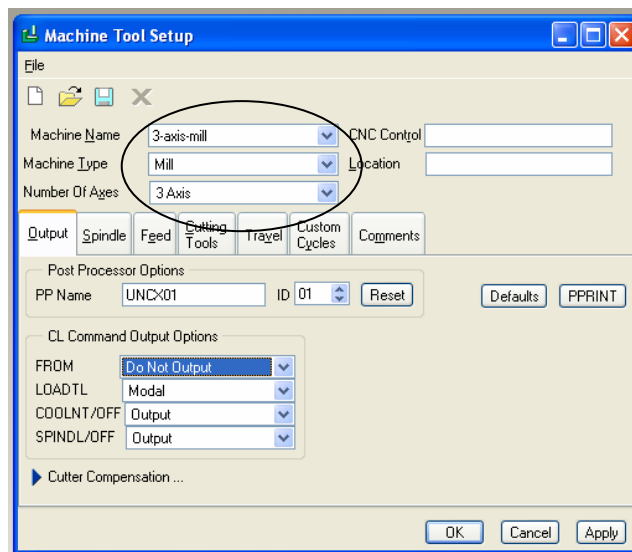

Figure 4b: Machine Tool Setup
Step 3: On the Machine Tool Setup dialog box, enter the parameters shown in Figure 4b.